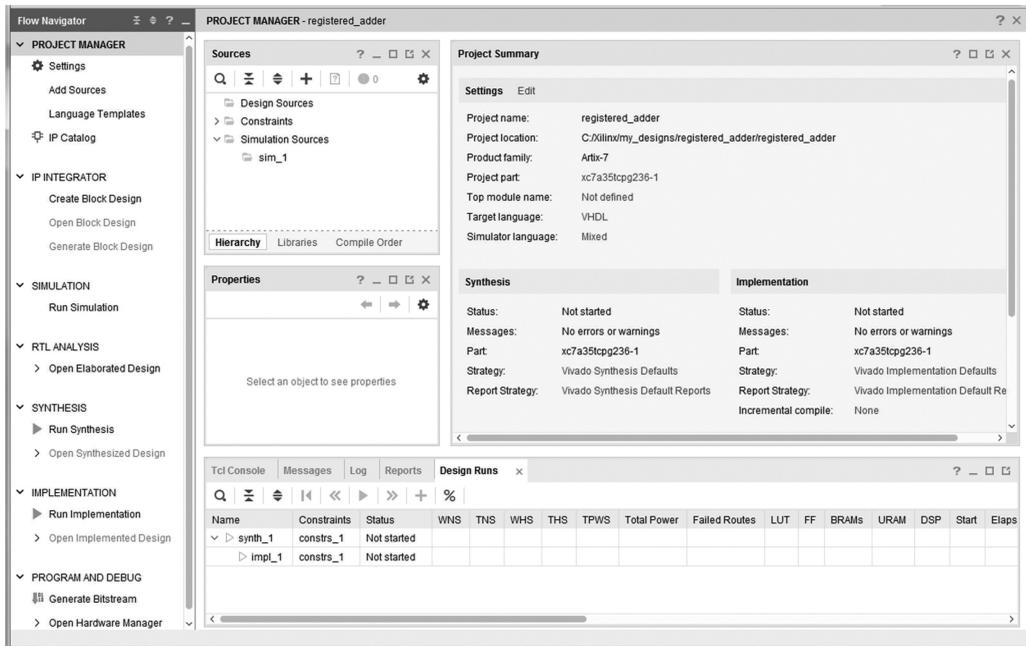

Figure A.4
- d) In figure A.3d, select the FPGA device or the FPGA board. In this tutorial, the XC7A35TCPG236 Artix-7 FPGA is employed. Click **Next** and **Finish**, which finally opens the project Flow Navigator (figure A.4).
- e) Observe on the lefthand side of figure A.4 the several sections of the Flow Navigator: PROJECT MANAGER, IP INTEGRATOR, SIMULATION, RTL ANALYSIS, SYNTHESIS,